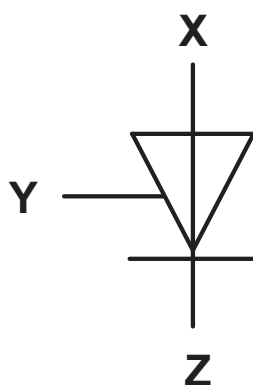

Fig. 9
- (b) Name the component shown in **Fig. 9** and identify each of the three connections labelled **X**, **Y** and **Z**.